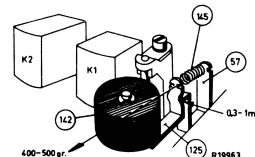

Fig. 15
- . A space of 0.3 to 1.5 mm should be between the lip on slide 57 and the lip on the pressure roller lever 125 (fig. 15). This distance can be adjusted by bending the lip on slide 57.
The force necessary for lifting the pressure roller 142 from the capstan should be 400 to 500 grammes (fig. 15). This force can be adjusted by bending the fixing lip for spring 145 on slide 57.